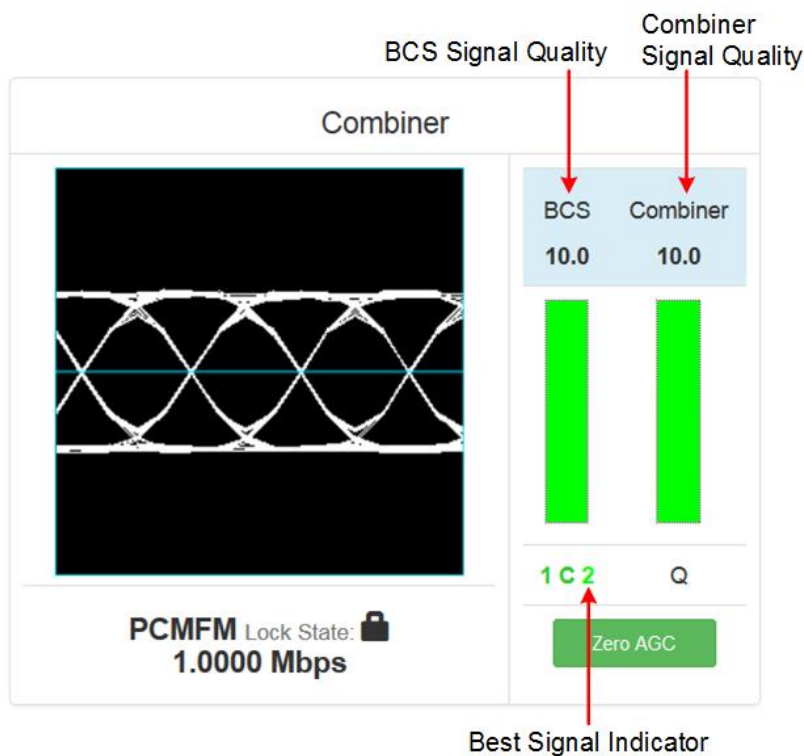

Figure 24: Best Channel Indicator Example
Best Channel Selector status is only displayed with the Combiner option enabled and set to On. This status displays in the right-hand side of the combiner signal indicator window, to the left of the combiner Signal Quality (Q) status, as shown in Figure 24.